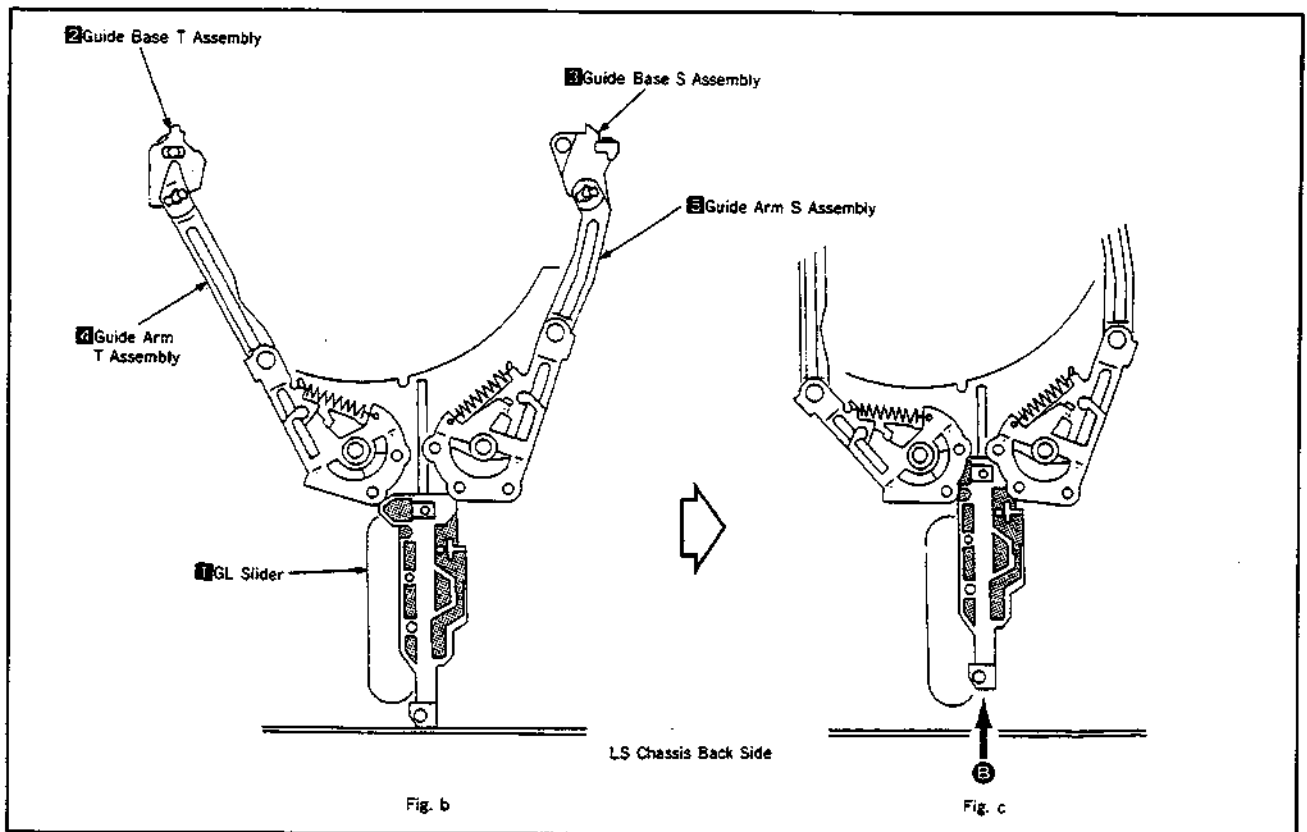

Fig. 16
- 2) On the back side of chassis, insert the guide arm T assembly ④, guide arm S assembly ⑤ and GL slider ① from position shown in Fig.b to position shown in Fig. c. Also, aligning the guide base T assembly ② and guide base S assembly ③ with the respective guide rails, push in the GL slider ① toward the arrow ⑥ as shown in Fig. 16.